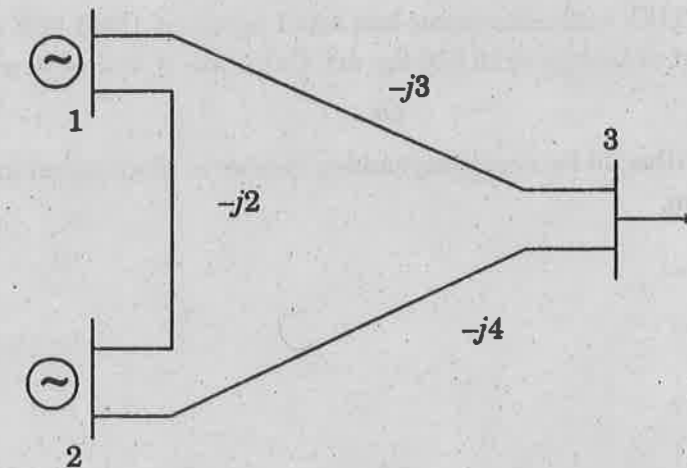

Fig. 3.
14. For the system shown in Figure 3, (on page 3) carry out one iteration of load flow solution by Gauss Seidel method. Line admittances are in p.u.